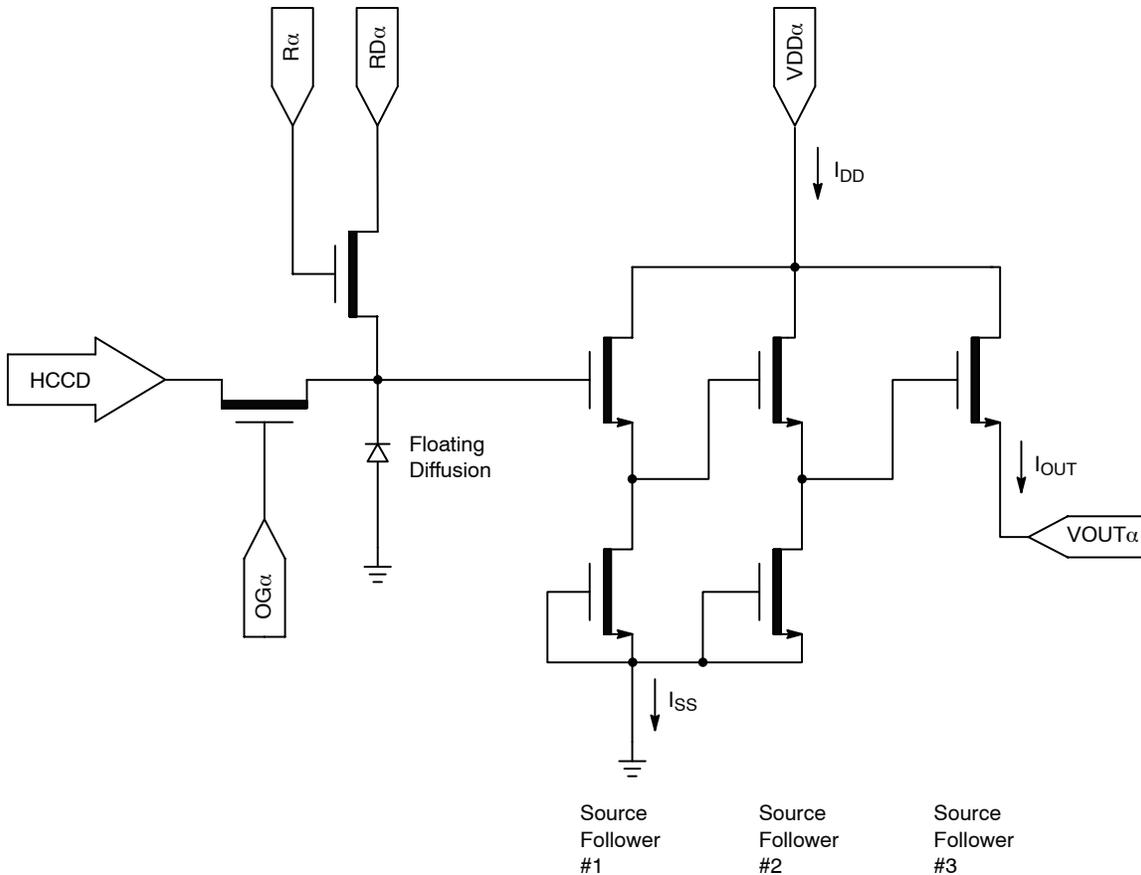

Figure 20. Output Amplifier
- The maximum DC current is for one output. I_{DD} = I_{OUT} + I_{SS}. See Figure 20.